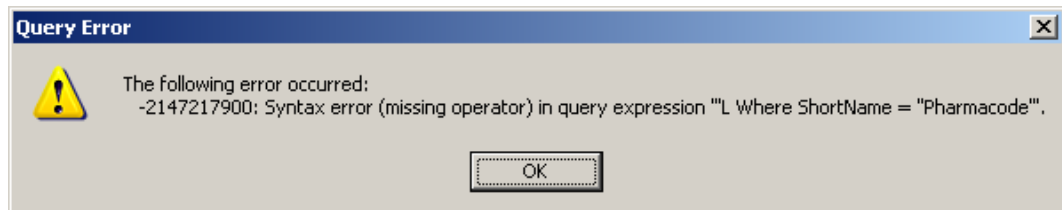

Figure 66: Example query error message when the syntax of the command is incorrect.
- If you copied and pasted the query from this document, check the quotation marks; if they are not identical (i.e. facing different directions), edit them and try the query again. Figure 66 is a sample error message that appears when the syntax of the command is incorrect.